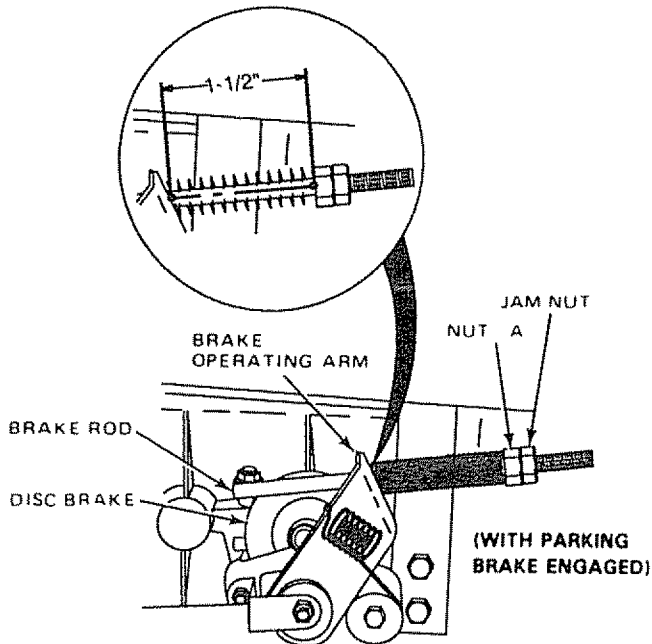

FIGURE 10
This tractor is equipped with an adjustable brake system mounted on the right side of the transaxle (Fig. 10).
- c. If distance is other than 1-1/2", disengage parking brake, loosen jam nut (Fig. 10) and turn nut "A" until distance becomes 1-1/2", Retighten jam nut against Nut "A".